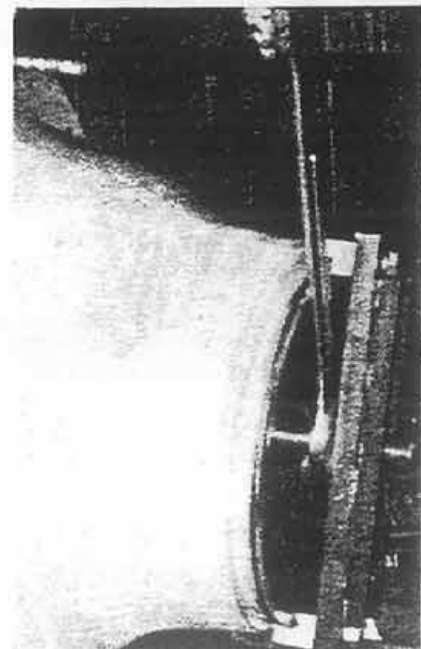

Figure 4:
5. Use an open end wrench to tighten the forcing screw nut against puller bridge as shown to force the seal case assembly from the hub (Fig. 4).